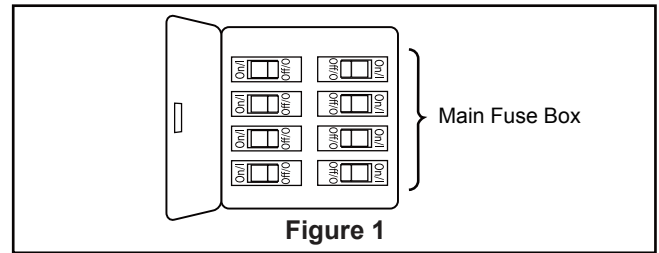
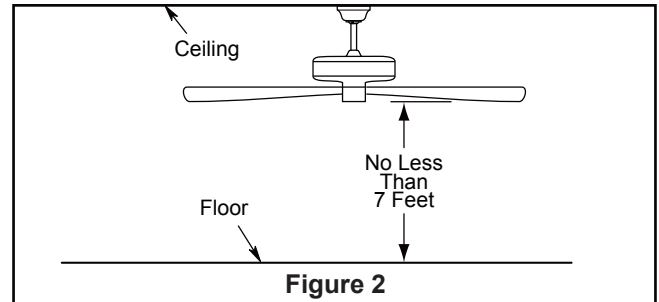
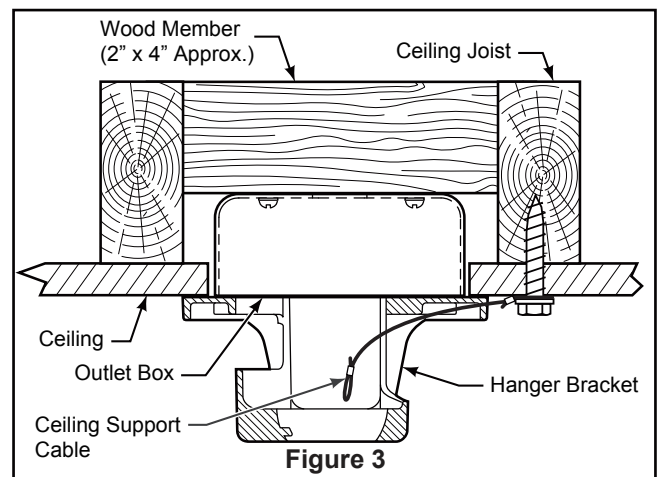

Figure 1
Figure 2
Figure 3
Your new ceiling fan will require a grounded electrical supply line of 120 volts AC, 60 HZ, 15 Amp Circuit. Electrical code requires use of a fan-rated outlet box to support the extra weight and motion associated with a ceiling fan. A fan-rated box will be labeled as such and typically supports up to a 70lb ceiling fan. Fan-Rated Outlet Boxes vary in ratings and design. Ensure the ratings of your ceiling fan outlet box meet the requirements for the ceiling fan being installed. Figure 1, Figure 2 and Figure 3 depicts different structural configurations that may be used for mounting the outlet box.
Low profile box (Figure 1)
Deep box (Figure 2)
Deep box with brace (Figure 3)
- **1.** Remove the three stabilizer tabs and plastic bag from the motor. Discard the stabilizer tabs. (Figure 1)
- **2.** Prior to assembly, set aside and save the hardware bags packaged with your fan. Remove the hanger ball by loosening the set screw in the hanger ball until the ball falls freely down the downrod. Remove the pin from the downrod, then remove the hanger ball. Retain the pin and hanger ball for reinstallation in Step 7. (Figure 2)
- **3.** Remove the hairpin clip and clevis pin from the bottom of the downrod. Retain the pin and clip for reinstallation in Step 5. (Figure 3)
To avoid possible fire or shock, be sure electricity is turned off at the main fuse box before hanging. (Figure 1)
The fan must be hung with at least 7' of clearance from floor to blades. (Figure 2)
1. Securely attach the hanger bracket to the outlet box using the outlet box screws and washers supplied with the fan. (Figure 3)
2. Drill a 1/4" pilot hole into the building structure to prevent splitting or cracking with installation of the lag bolt. Using the 3/8" x 2" lag bolt and flat washer, attach safety cable to ceiling joist or wood structural member. The lag bolt will pass through the flat washer, safety cable loop, and into the building structure. (Figure 3) **NOTE:** Ceiling support cable cannot be secured to outlet box only, it must be directly secured to ceiling joist or structural member using the 3/8" x 2" lag bolt and flat washer. (Figure 3)
1. To set the code on receiver unit, slide dip switches to the same positions as set on the remote control. (Figure 1)
To avoid possible electrical shock, be sure electricity is turned off at the main fuse box before wiring. (Figure 2)
2. Slide the receiver into the hanger bracket before wiring as shown in figure 3.
1. Assemble canopy by rotating key slot in canopy over shoulder screw in hanger bracket, taking care not to pinch the wires. Tighten shoulder screw. Fully assemble and tighten second shoulder screw that was previously removed. (Figure 1)
2. Securely attach and tighten the canopy screw cover over the shoulder screws in the hanger bracket utilizing the key slot twist-lock feature. (Figure 2)
1. Secure the three blades using the 3/16"-24 serrated head screws with flat washers through the holes located on the bottom of the motor assembly. (Figure 1)
2. Attach the plastic cap assembly to the motor assembly, which is held in place by a magnet. (Figure 2)
- 1. **IMPORTANT:** Using a full range dimmer switch (not included) to control fan speed will damage the fan. To reduce the risk of fire or electrical shock, do not use a full range dimmer switch to control the fan speed. (Figure 1)
- 2. Restore electrical power to the outlet box by turning the electricity on at the main fuse box. (Figure 2)
- 3. Remove the battery cover from remote control by screwdriver and retain the screw for later. (Figure 3)